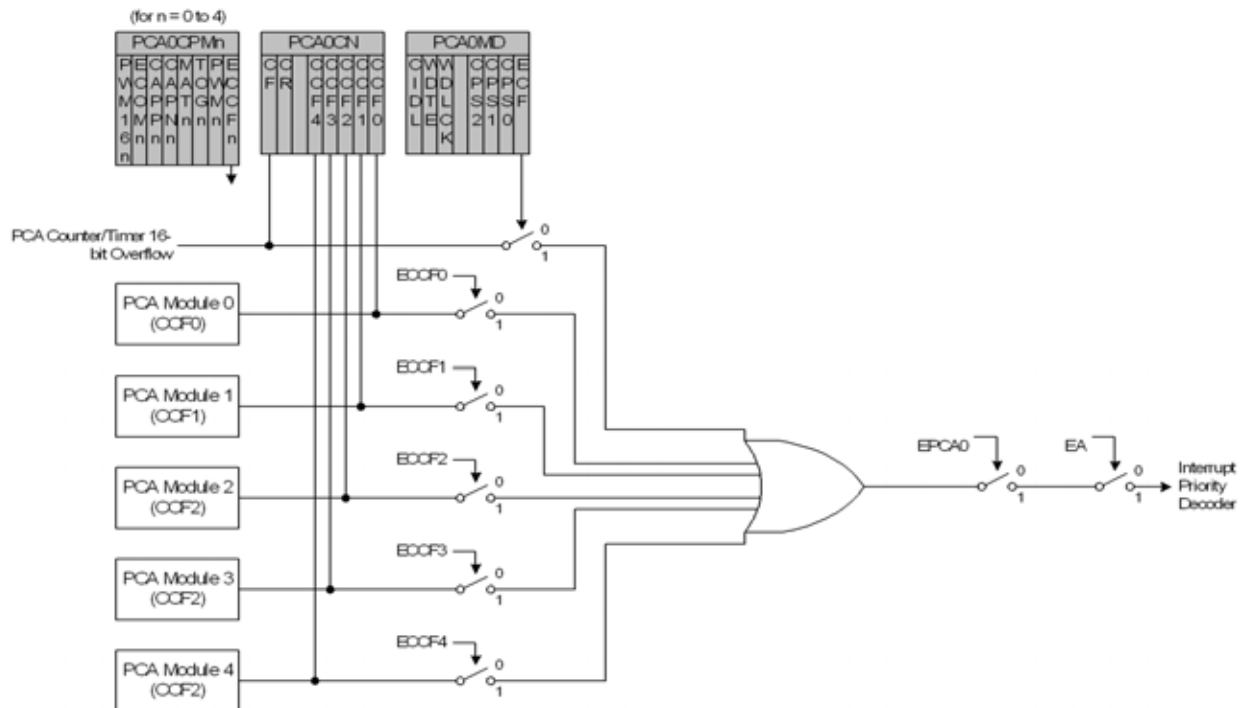

Figure 26.3. PCA Interrupt Block Diagram
Figure 26.3 shows a diagram of the PCA interrupt tree. There are six independent event flags that can be used to generate a PCA0 interrupt. They are: the main PCA counter overflow flag (CF), which is set upon a 16-bit overflow of the PCA0 counter and the individual flags for each PCA channel (CCF0, CCF1, CCF2, CCF3, and CCF4), which are set according to the operation mode of that module. These event flags are always set when the trigger condition occurs. Each of these flags can be individually selected to generate a PCA0 interrupt, using the corresponding interrupt enable flag (ECF for CF, and ECCFn for each CCFn). PCA0 interrupts must be globally enabled before any individual interrupt sources are recognized by the processor. PCA0 interrupts are globally enabled by setting the EA bit and the EPCA0 bit to logic 1.